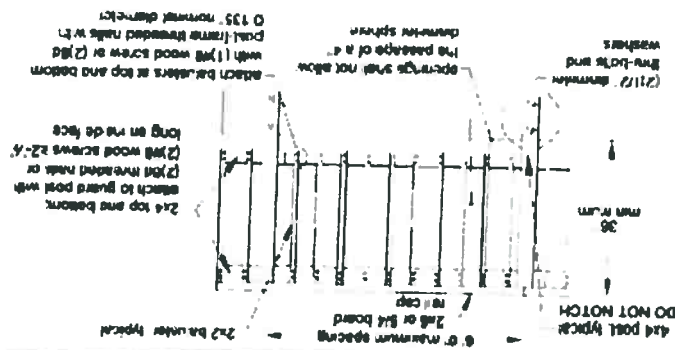

**FIGURE 1: TYPICAL DECIDING**
- b. Wood decking may be placed at an angle of 45 to 90 degrees to the joists and attached per FIGURE 1. If wet, place decking with no gap so after drying a 1/8-inch gap is created